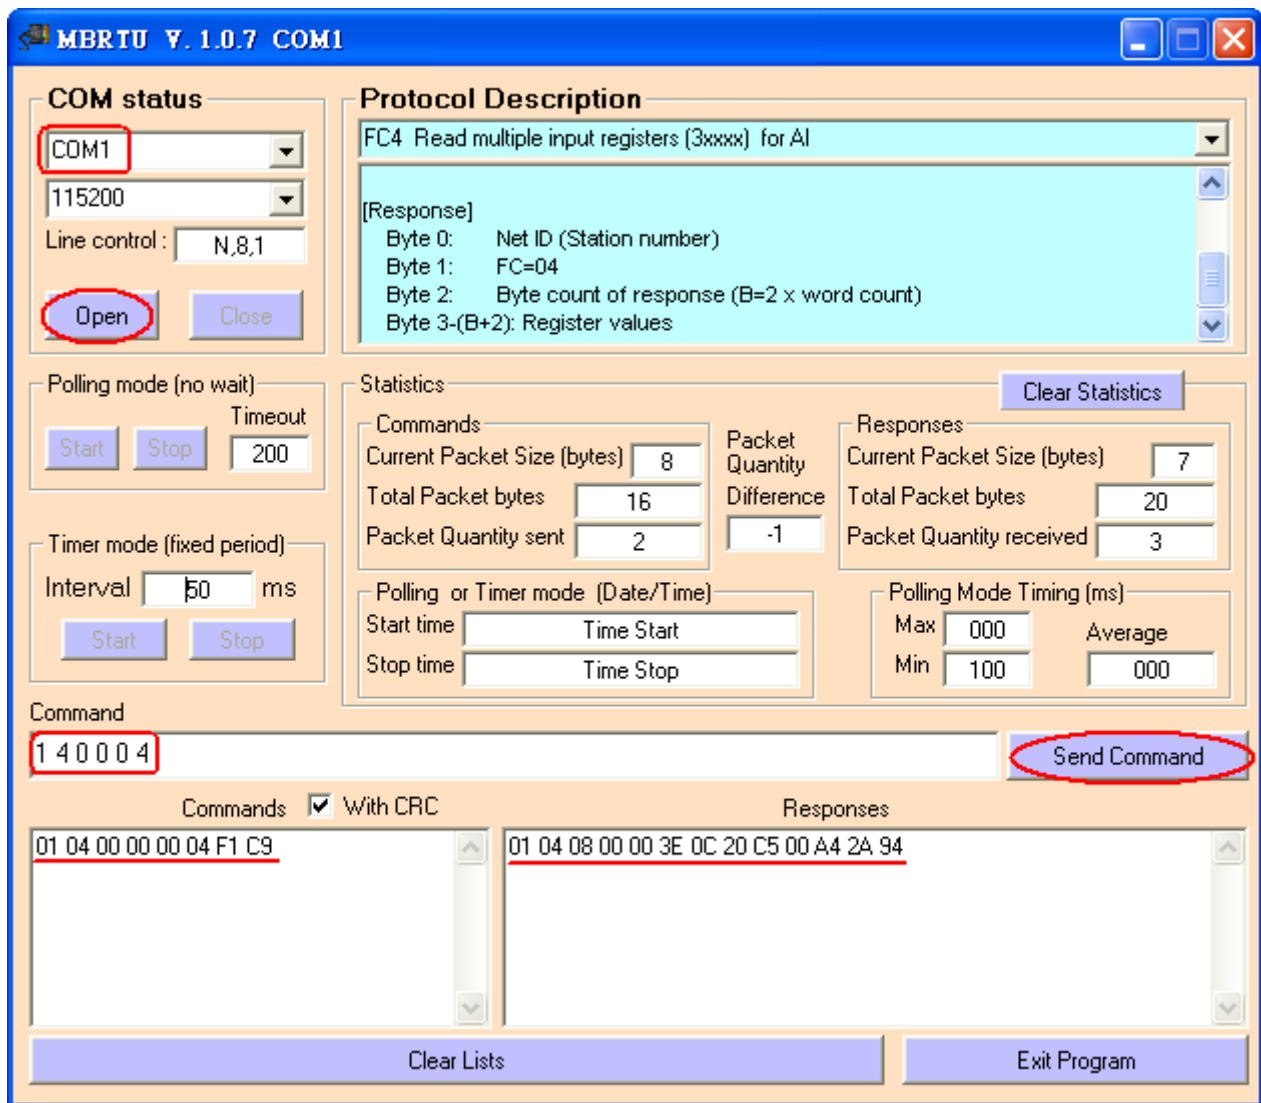

Figure 5-2 Receive HART Command 1 data
(2) The below demo will use the free **MB/RTU tool** provided by ICP DAS to show HART command 1 data. (Download from http://ftp.icpdas.com.tw/pub/cd/8000cd/napdos/modbus/modbus_utility/)
(3) Run "MB/RTU" tool. Set the com port settings the same with HART-710 (Baud Rate / Data Bits / Stop Bits / Parity) and then click "Open" button to connect to HRT-710 like Figure 5-2.
(4) Input "1 4 0 0 4" in "Command" field and click "Send Command" button to send the modbus command. The HART command 1 data will be received in "Responses" field => "01 04 08 00 00 3E 0C 20 C5 00 A4 2A 94" like Figure 5-2.